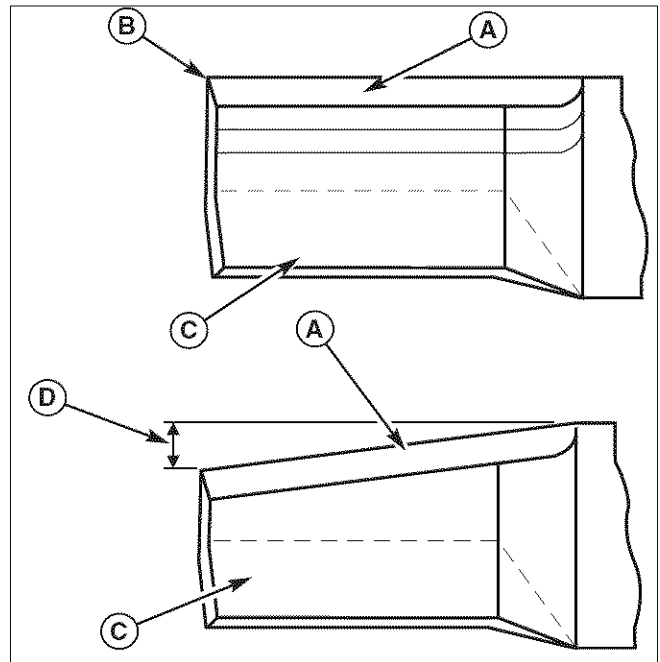

Figure 24. inspecting the Mower Blade Tips
2. Inspect the mower blade (Figures 24 & 25). **Discard the mower blade if it has any of the below conditions.**
- A.) Has more than .5" (12,7 mm) of the mower blade metal removed from previous sharpening or wear (D, Figure 24).